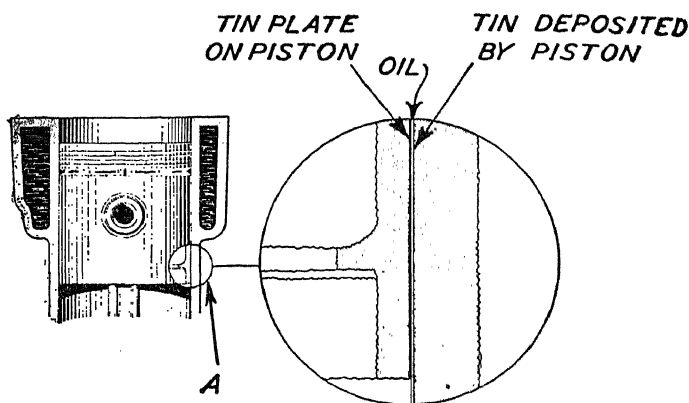

Fig. 50. Tin-Plated Piston
**Tin-Plated Pistons.** The primary purpose of plating pistons is to assure a short and safe running-in period for a new engine. Incidentally, of course, the running-in period is the determining factor in the ultimate length of life of any engine. A graphic illustration of just how the tin serves to facilitate the running-in of a new engine is given in Fig. 50. An enlarged view of the section of piston and cylinder shown in the small circle at *A* is produced at the right.